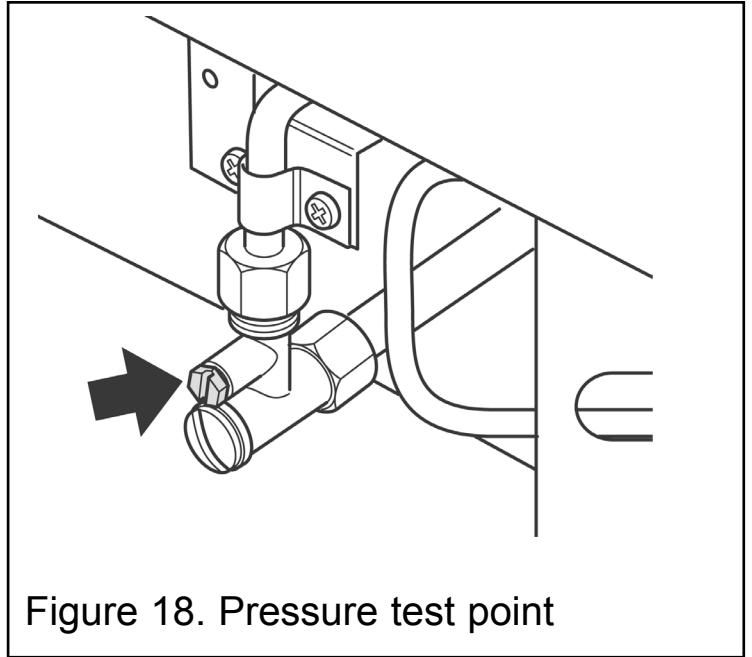

Figure 18. Pressure test point
1. Check the inlet pressure by fitting a pressure gauge at the test point. The test point is on the inlet 'T' connector. See figure 18. Check the pressure with the appliance alight and set at maximum output.